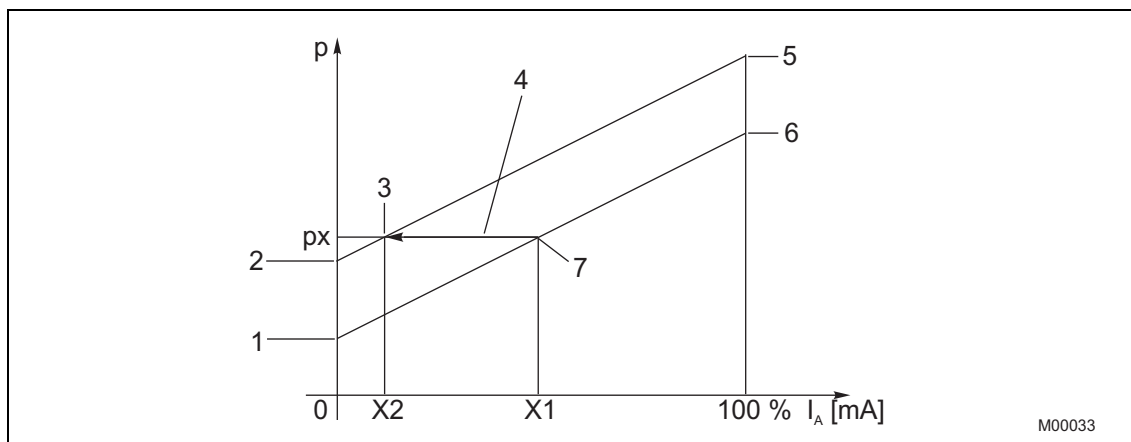

Fig. 20: Offset shift
- When a pressure p_x is applied, the pressure transmitter displays the standardized output value x_1 as a percentage. Based on the current application, however, the value x_2 should be displayed. The value x_2 is now set via the local control unit/LCD. The transmitter calculates the new zero position and the new end value, and adopts these settings (see Fig. 20, Offset shift).